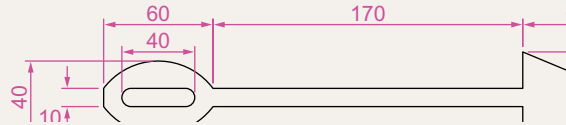

Fig. 3.53 Exercise 10
10. Construct Fig. 3.53 using the **Line** and **Arc** tools. Then change all widths of lines and arcs to a width of 2 with **Polyline Edit**.